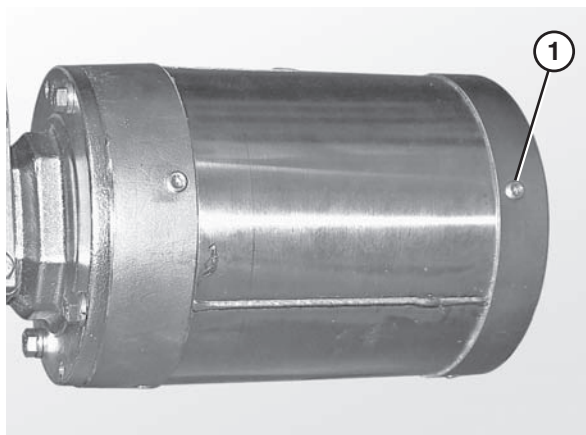

Figure 10
7. Remove the drainage plugs (**Figure 10, item 1**) on the bottom side of the motor.